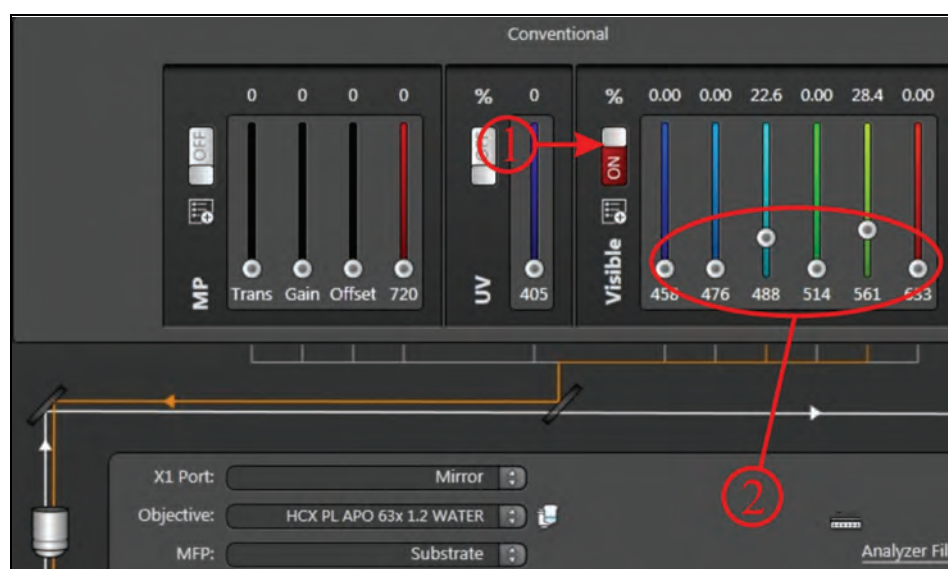

Figure 97: Activating the continuous wave VIS laser in LAS AF
1. Open the laser shutter in **Beam Path Settings** (Figure 97, item 1).
2. Set the desired laser line intensity using the slider (Figure 97, item 2).
The red-colored **ON** button (Figure 97, item 1) signals that the shutter is open.